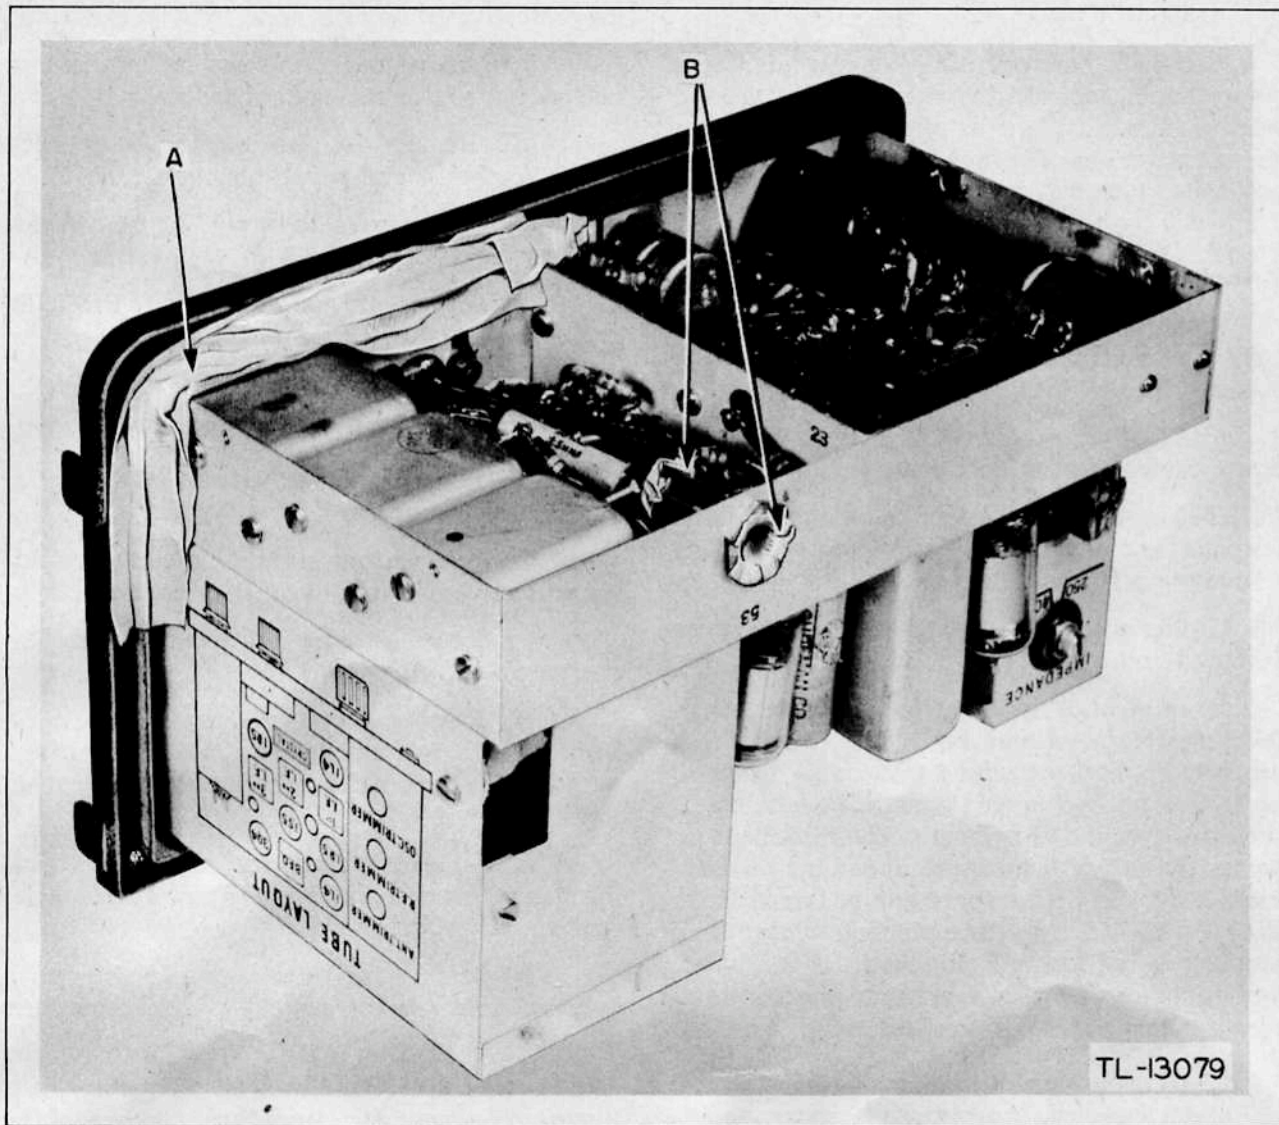

Figure 45. Components masked in bottom interior of receiver chassis.
(4) CLEANING. Clean all dirt, dust, rust, fungus, oil, grease, etc., from those portions of the equipment which could not be reached before disassembly.
(5) MASKING OF RECEIVER. Cover the following components with masking tape as shown in figures 45 and 46.
(a) Opening adjacent to tuning mechanism, item A, figure 45.
(b) Openings at end of ground jack, item B, figure 45.